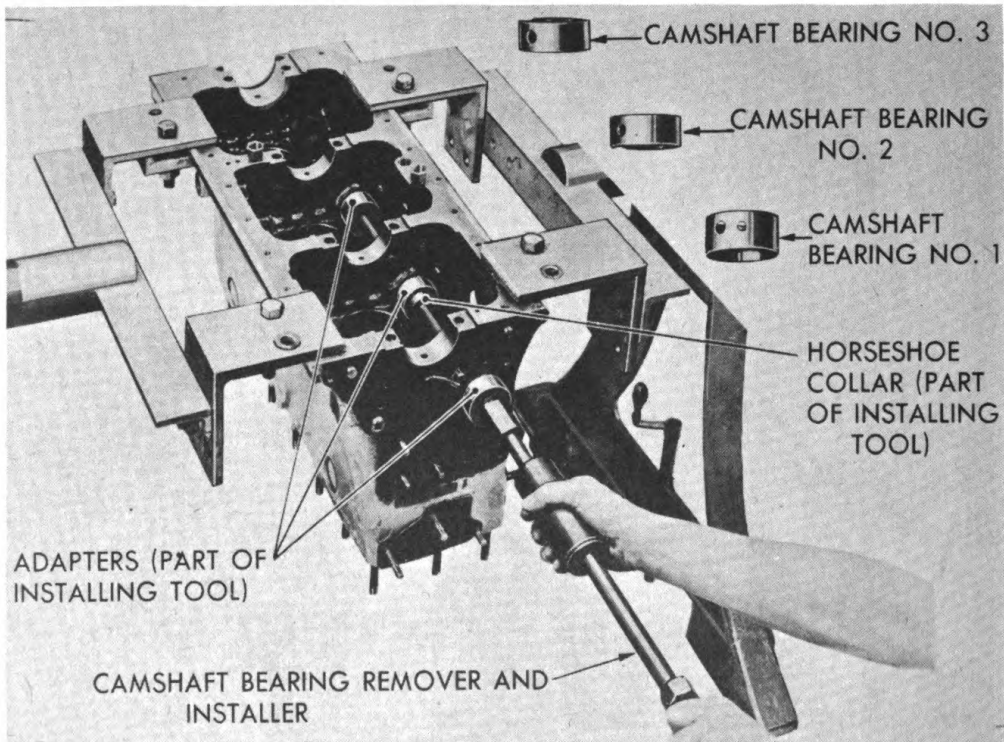

Figure 106—Camshaft Bearing Installation
b. **Install Camshaft Bearings—**(Figure 106.) The rear ends of the camshaft bearings are chamfered to facilitate installation. An oil hole is machined in each bearing which must line up with an oil hole in the block. The front bearing has a second oil hole which must line up with the hole which supplies oil to the timing chain. Install the correct size adapter of camshaft bearing tool (figure 106), in each of the two intermediate bores. Install the correct adapter in the front bearing and start the front bearing in its bore. Insert the installer shaft through all three adapters and install a horseshoe collar forward of the front adapter. With the sliding hammer of the tool, drive the front bearing into place (figure 106), being sure the oil holes are in alignment. Remove the installer shaft but leave the front and rear adapters in the bores to guide the shaft when installing number two bearing. Place the adapter in number two bearing and start the bearing in its bore. Install the horseshoe collar forward of that bearing and drive the bearing into place. Remove the installer shaft and number three adapter. Place number three bearing in the adapter and drive it into place with the procedure used on the other bearings. The bearings are manufactured to such close limits that no fitting or burnishing is required.